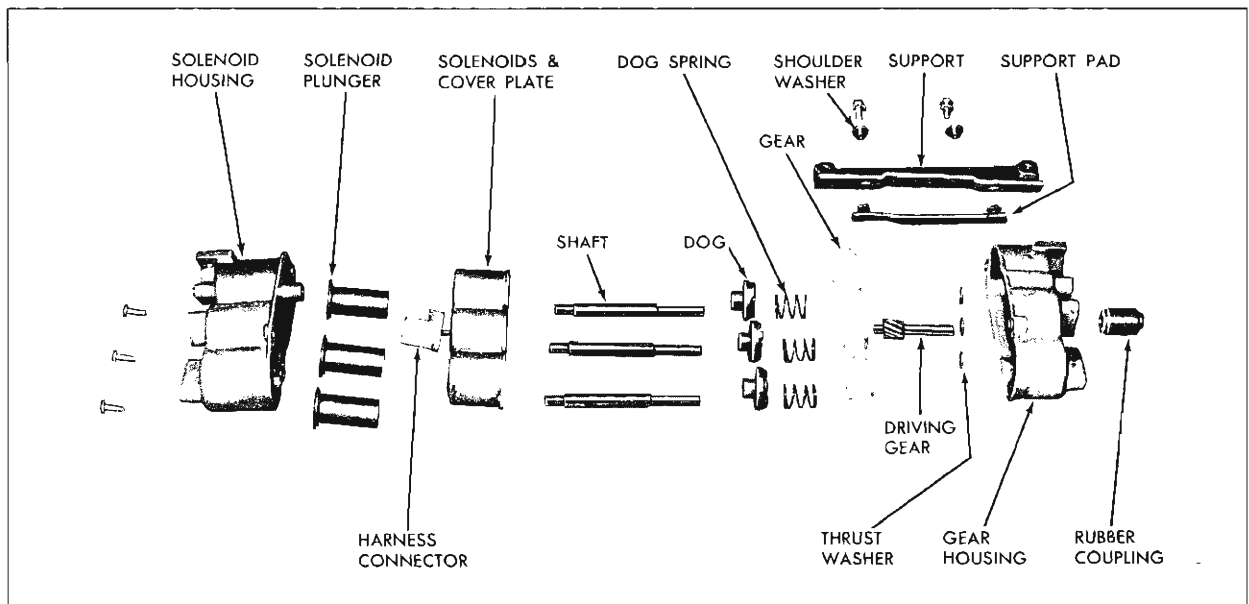

Fig. 8-10 Six-Way Seat Transmission
3. Remove screws securing gear housing to the solenoid housing; then, carefully separate housings and remove component parts of transmission assembly (Fig. 8-10).